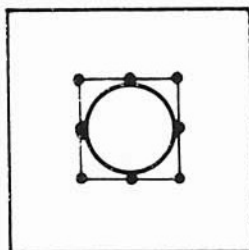

Figure 29 Mark out and drill
- 1 Mark out the square hole (Fig. 29) and on the same centre mark a circle 1 to 2 mm less in diameter than the size of the finished hole.